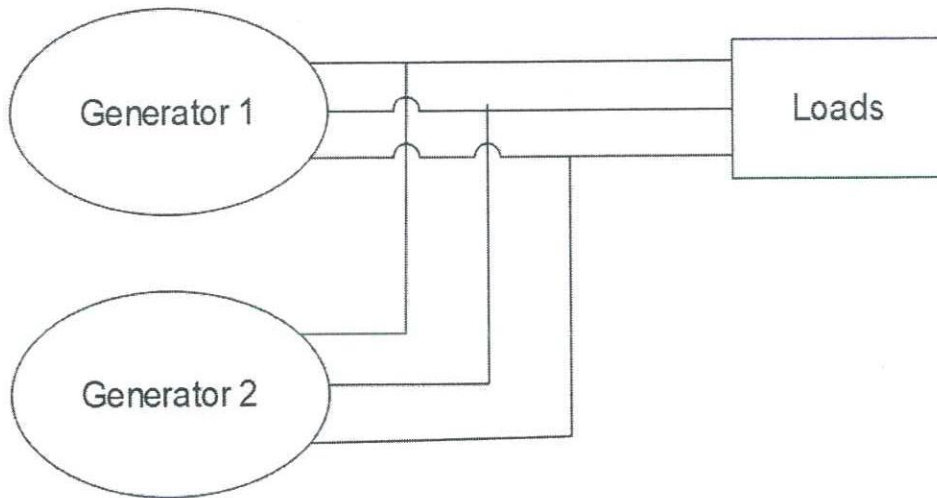

Figure Q4. Two generators supplying a load.
- b) Figure Q4 shows two generators supplying a load. Generator 1 has a no-load frequency of 61.5 Hz and a 1 MW/Hz slope. Generator 2 has a no-load frequency of 61 Hz and a 1 MW/Hz slope. The two generators supply a real load of 2.5 MW at 0.8 PF lagging.